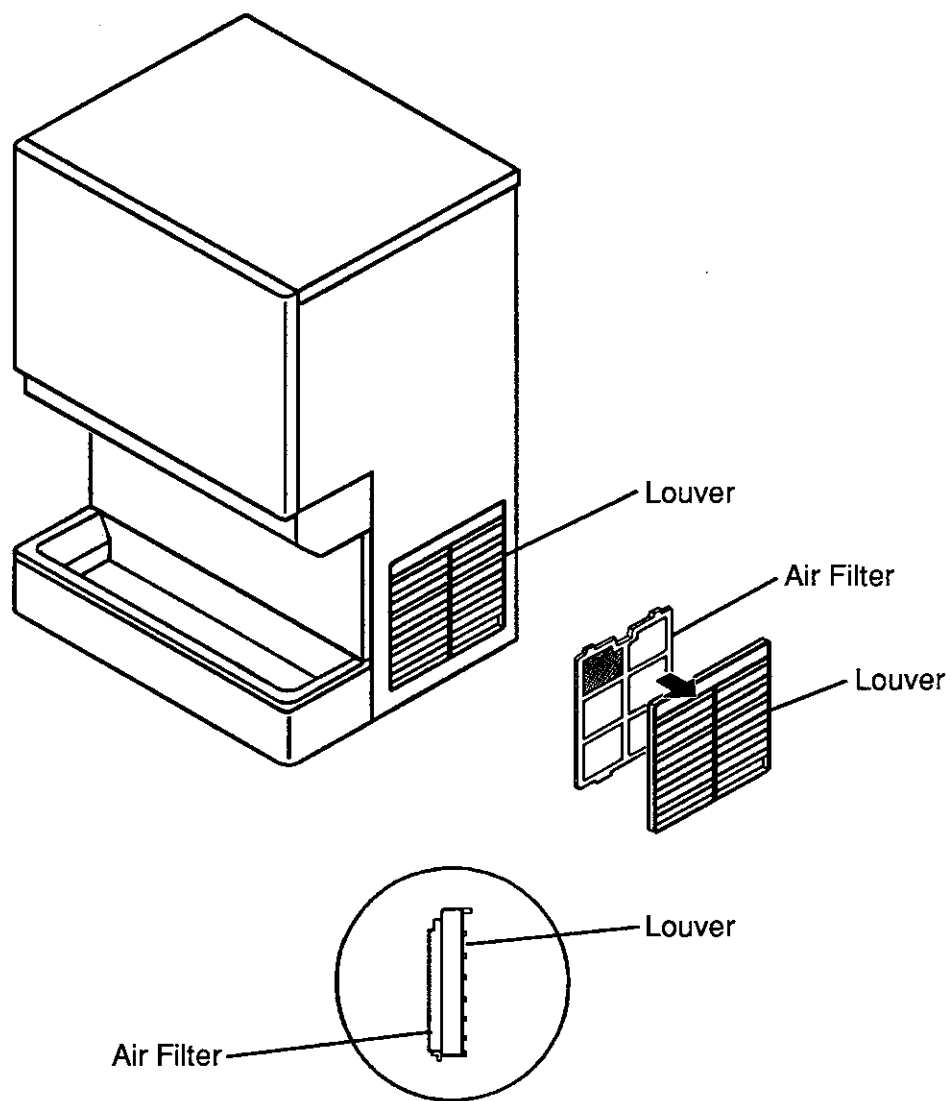

Fig. 25
3) Air Filter (Air-cooled model only) - See Fig. 25